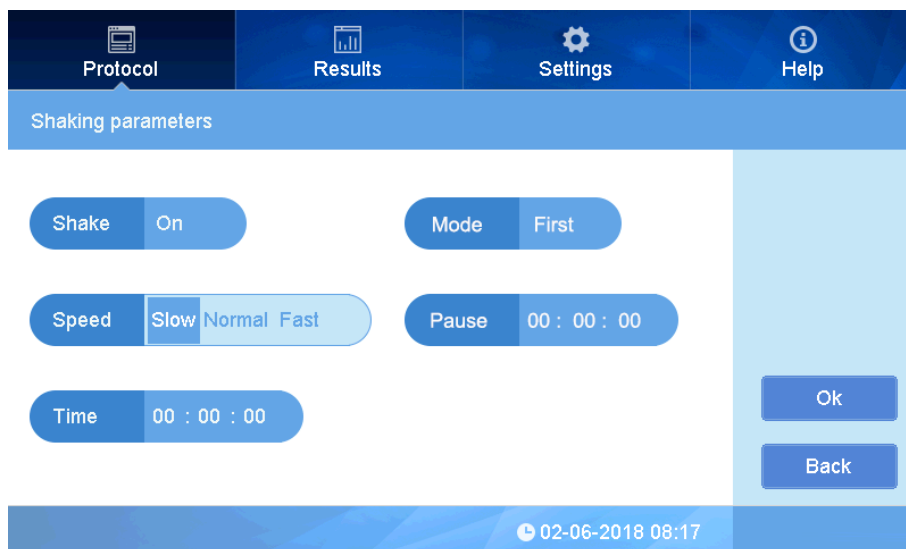

Fig 24
- ③ Click “Speed” to set Slow, Normal, or Fast shaking speed. See Fig 24.